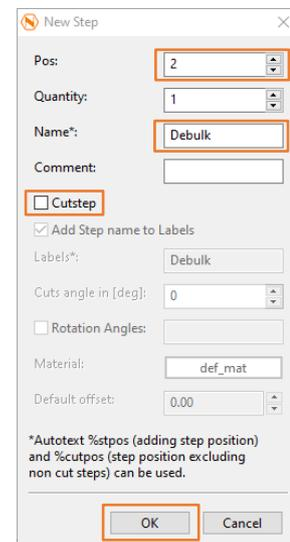

Figure 242
31. Define the position of the new step by setting the value in the **[Pos:]** entry box to “2” (Figure 242). This includes the new step at position 2 in our step table.